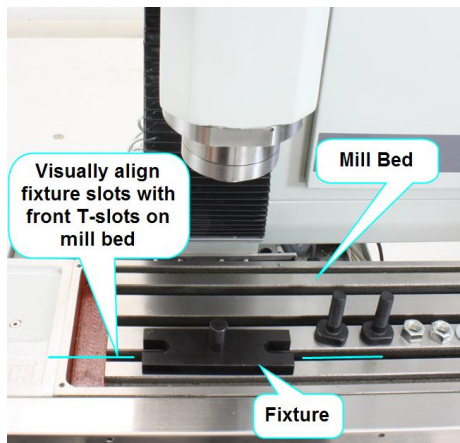

Figure 3
- b) Position the spindle fixture to the front T-slot on the bed; do not attach fixture bolts at this time. See Fig 3.